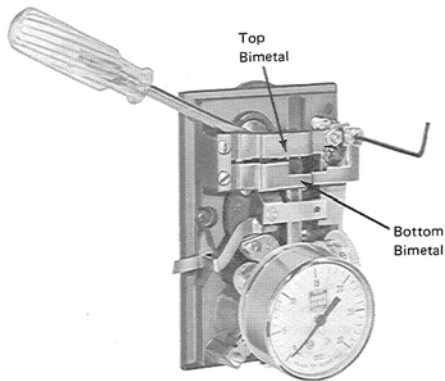

Figure-5
3. Attach the test gauge rubber seal to the boss, as shown. Using a rotary motion, push the gauge on as far as it will go (1/4-inch minimum). See Figure-5. The tubing will support the test gauge in a position where it will be easily read. The supply pressure to the thermostat should be 15 psig (103.4 kPa).
1. Insert the blade of the tool or screwdriver between the switchover plunger and the switchover lever shown in Figure-5. The top bimetal should be approximately 1/32-inch off the lever and the bottom bimetal should be in contact with the lever.